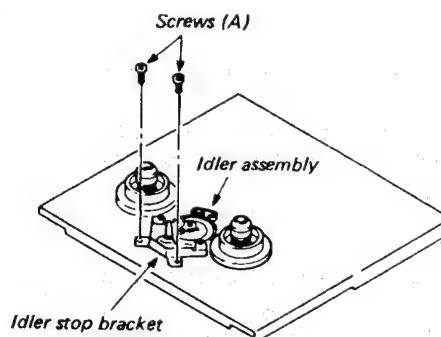

Fig. 1-3-37 Removal of idler stop bracket
- * Screws (A) and (B) are different in length.
2. Removal of idler stop bracket. (Fig. 1-3-37).